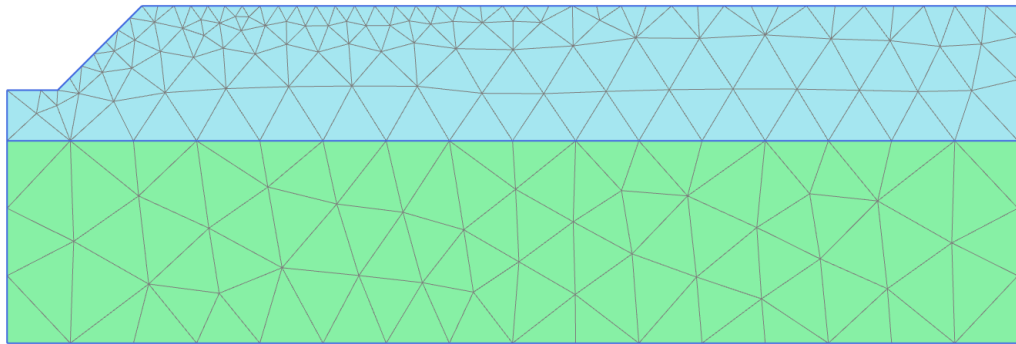

Figure 13-5: The generated mesh
- 5 Click the **View mesh** button  to view the mesh which is shown in Figure 13-5 \(p. 208\).